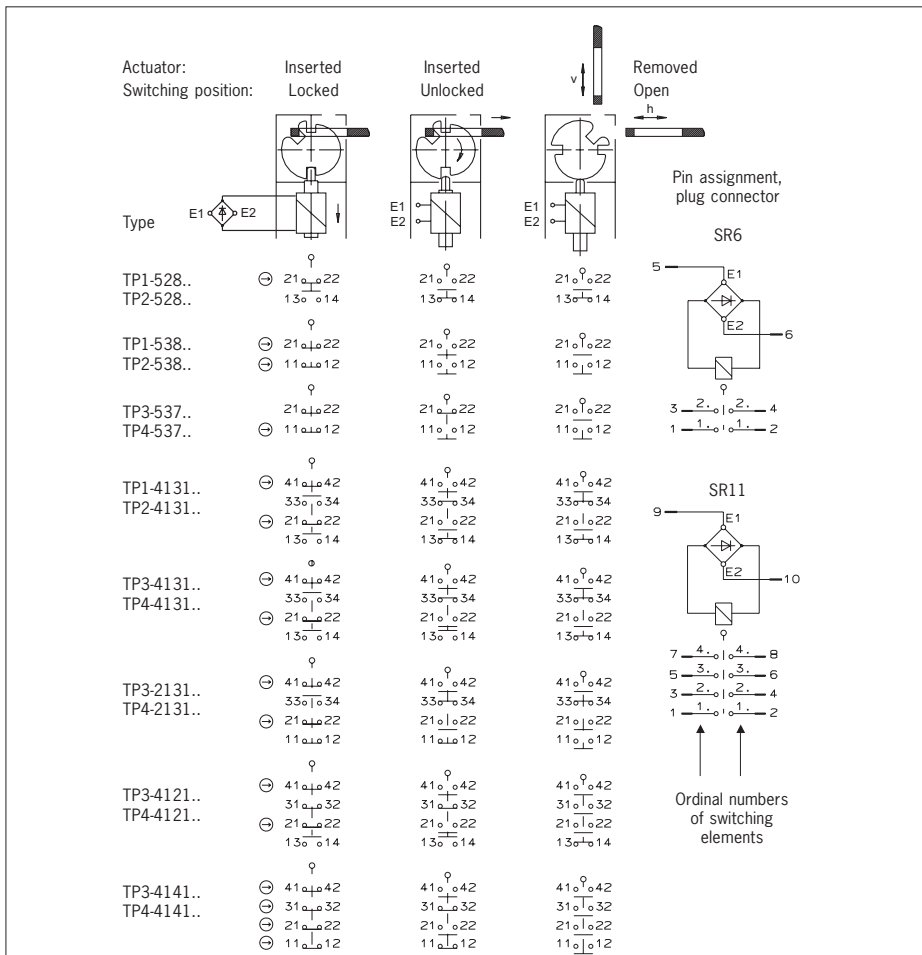

Figure 2: Switching elements and switching functions
TP1: The guard locking pin unlocks the actuator / safety guard to the **Open** switching position when voltage is applied to the solenoid (see Figure 2, column 3).
TP2: The guard locking pin unlocks the actuator / safety guard to the **Open** switching position when voltage is removed from the solenoid (see Figure 2, column 3).
TP3: The guard locking pin unlocks the actuator / safety guard to the **Unlocked** switching position when voltage is applied to the solenoid (see Figure 2, column 2).
TP4: The guard locking pin unlocks the actuator / safety guard to the **Unlocked** switching position when voltage is removed from the solenoid (see Figure 2, column 2).
- ▶ For pin assignment see Figure 2.